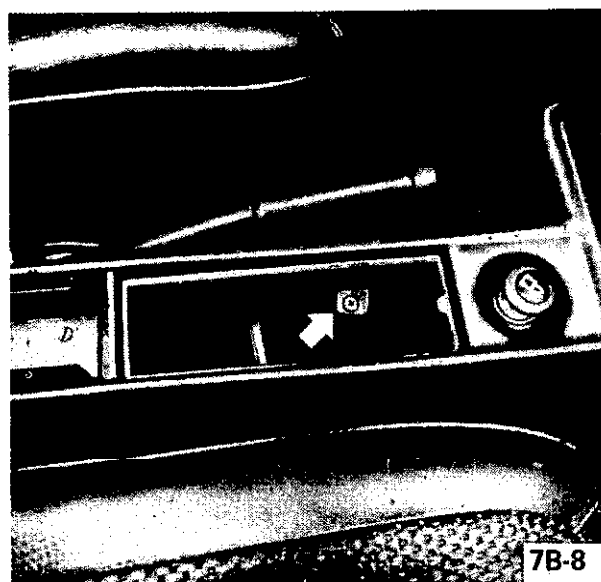

Figure 7B-8
3. Unhook tension spring of gearshift lever and, after removal of retaining washer, push pivot pin out of intermediate shift lever. See Figure 7B-10.